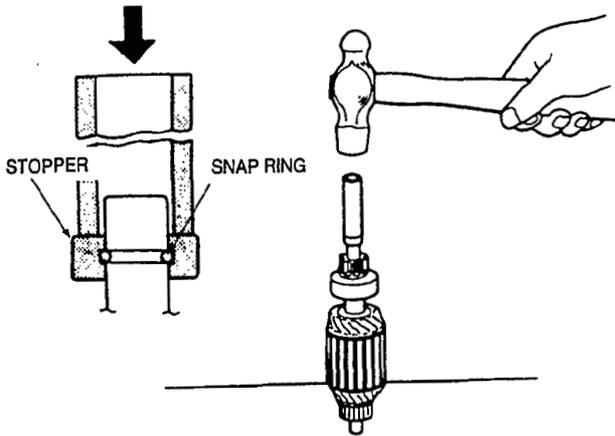

FIGURE 3. REMOVING OVERRUNNING CLUTCH
8. Push stopper toward pinion and remove snap ring (Figure 3).